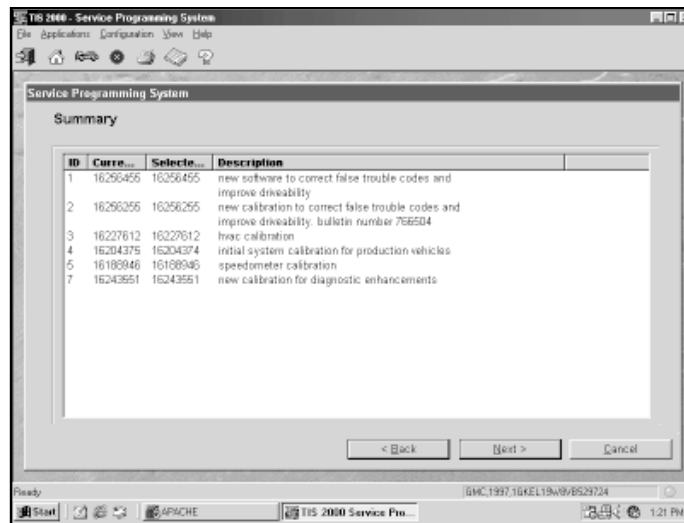

Figure I-12, Confirm Calibration
- 2.11 After making the necessary selections, a **Summary** screen will appear (Figure I-12) allowing you to confirm your selection. Select **Next** to continue. If calibrations are the same, you get an NAODRUI control box stating **Important: The calibration selected is already the current calibration in the control module. Reprogramming with the same download is not allowed. Click OK and back out, or click Cancel.**